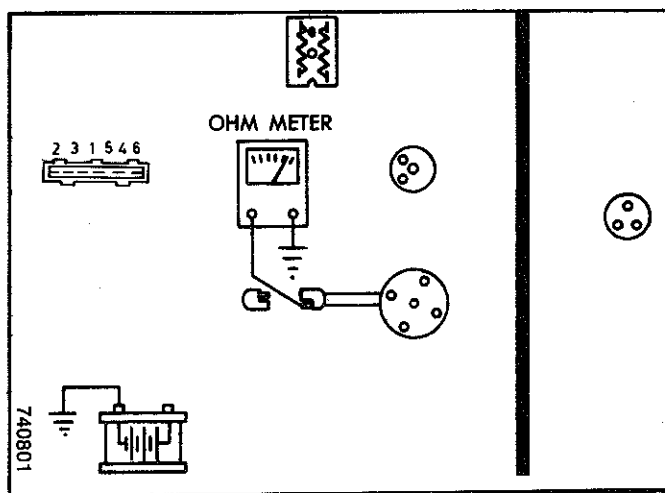

Fig. 12—Checking pick-up coil
(10) Connect one ohmmeter lead to a good ground and the other lead to either connector of the distributor (Fig. 12). Ohmmeter should show an open circuit. If the ohm-